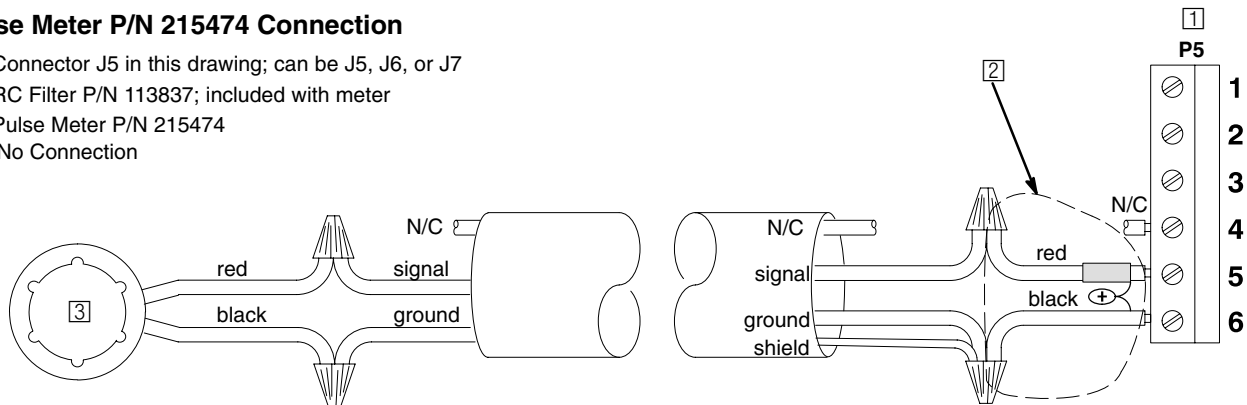

Fig. 8
- Connect an anti-freeze meter as shown in Fig. 8. Be sure to install the RC Filter.